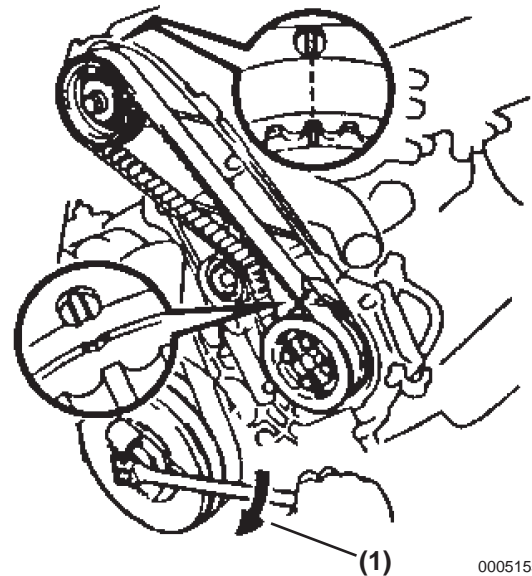

Figure 5-158
3. Turn the crankshaft pulley clockwise (**Figure 5-158, (1)**) to align the timing marks of camshaft timing pulleys No. 1 and No. 2 with the BDC mark. *NOTICE: If the timing belt is disconnected and the crankshaft pulley is rotated, engine damage will result from the piston head and intake/exhaust valve heads contacting. NEVER turn the crankshaft with the timing belt disconnected and always make sure to set the crankshaft pulley at the correct angle when installing the belt.*